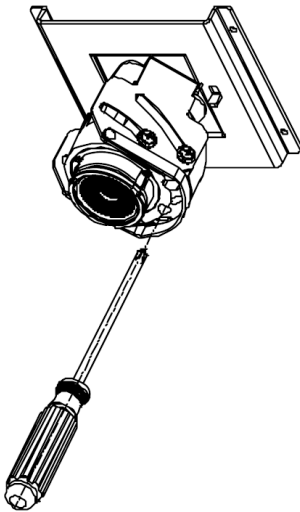

FIG 12
a. Insert the screw driver into the light module guide hole. (See **FIG. 12**)